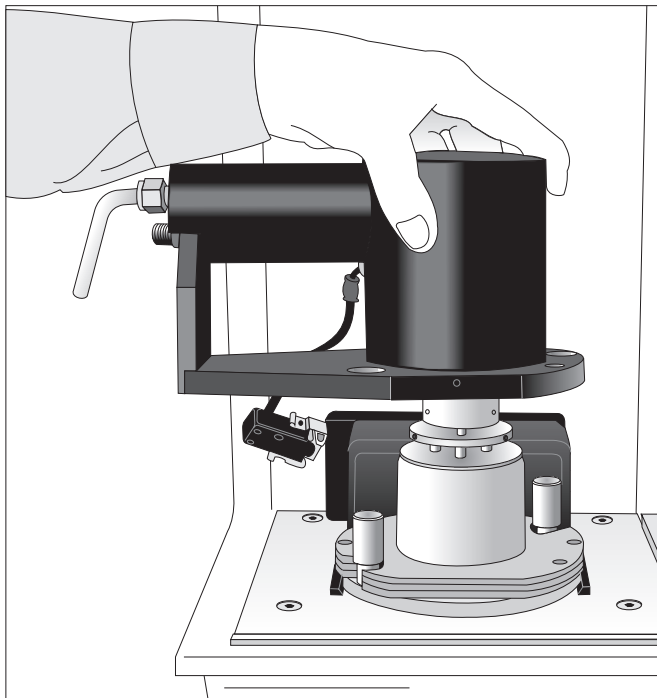

Figure 2.12
5. Align the arm of the heat exchanger to the left, and carefully lower it down over the thumbscrews, taking care not to hit the cell. See Figure 2.12.